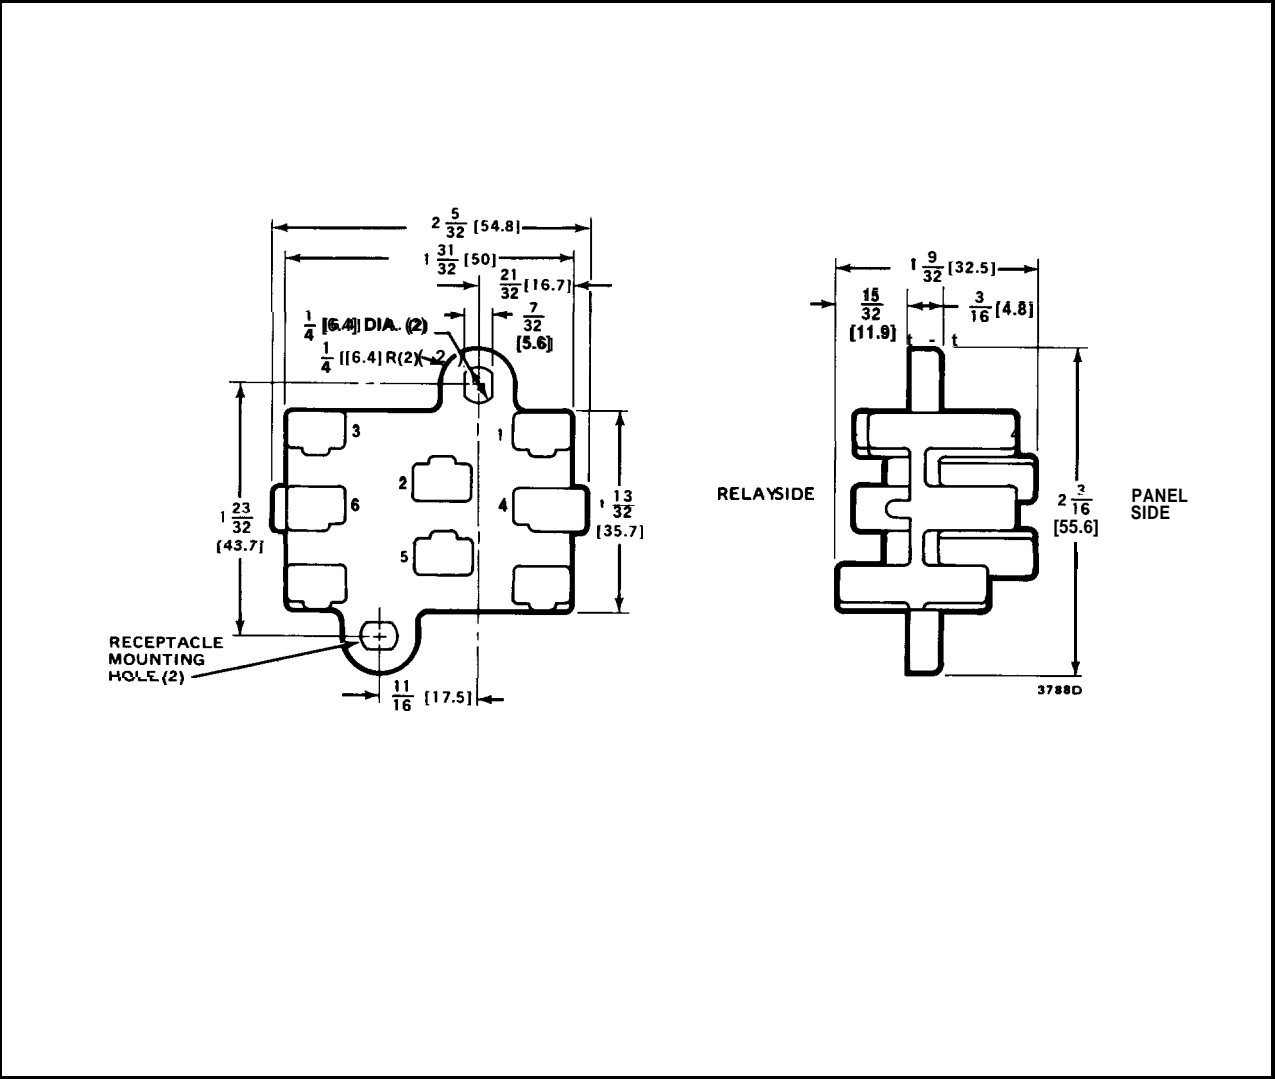

FIG. 2—DIMENSIONS OF WIRING RECEPTACLE.
- 2. 4074BVJ Receptacle with 8 color-coded plug-in leadwires and retaining bail, for panel mounting applications; see Fig. 2.